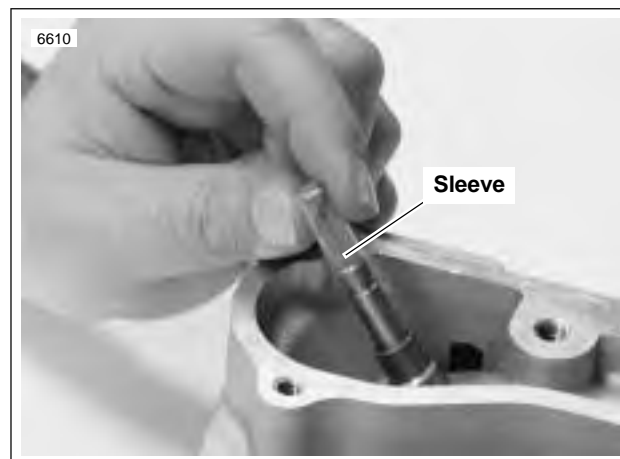

Figure 3-26. Valve Guide Seal Protector Sleeve
6. See Figure 3-26. Place a protective sleeve over the valve stem keeper groove. Coat the sleeve with oil and place a new seal over the valve stem.